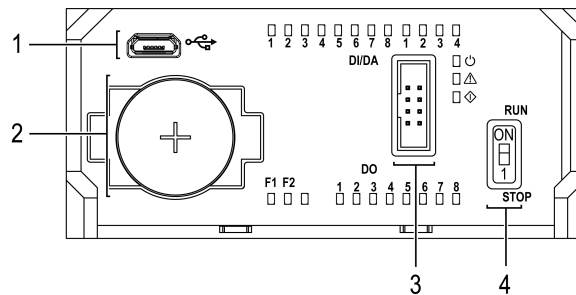

Abb. 6.3 Open front cover
To activate the I/O mode, turn the RUN/STOP switch (Fig. 6.3, Pos. 4) to **STOP** position.
A charged backup battery (Fig. 6.3, Pos. 2) ensures uninterruptable operation of the built-in RTC for 5 years. In the case of operation at a temperature near the limits of the operating range (Tab. 3.6), the operating time of the battery is reduced. For battery replacement see sect. 8.2.
1. Connect the PR100 programming connector (Fig. 6.3, Pos. 1) to PC over a USB-to-microUSB connection cable.
2. Connect the PR100 programming connector (Fig. 6.3, Pos. 1) to PC over a USB-to-microUSB connection cable.